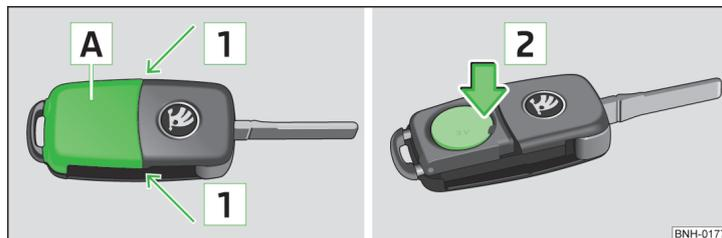

Fig. 190 Remove cover/take out battery
- Press off the battery cover **A** » Fig. 190 with your thumb or by using a screwdriver release in the region of arrow **1**.